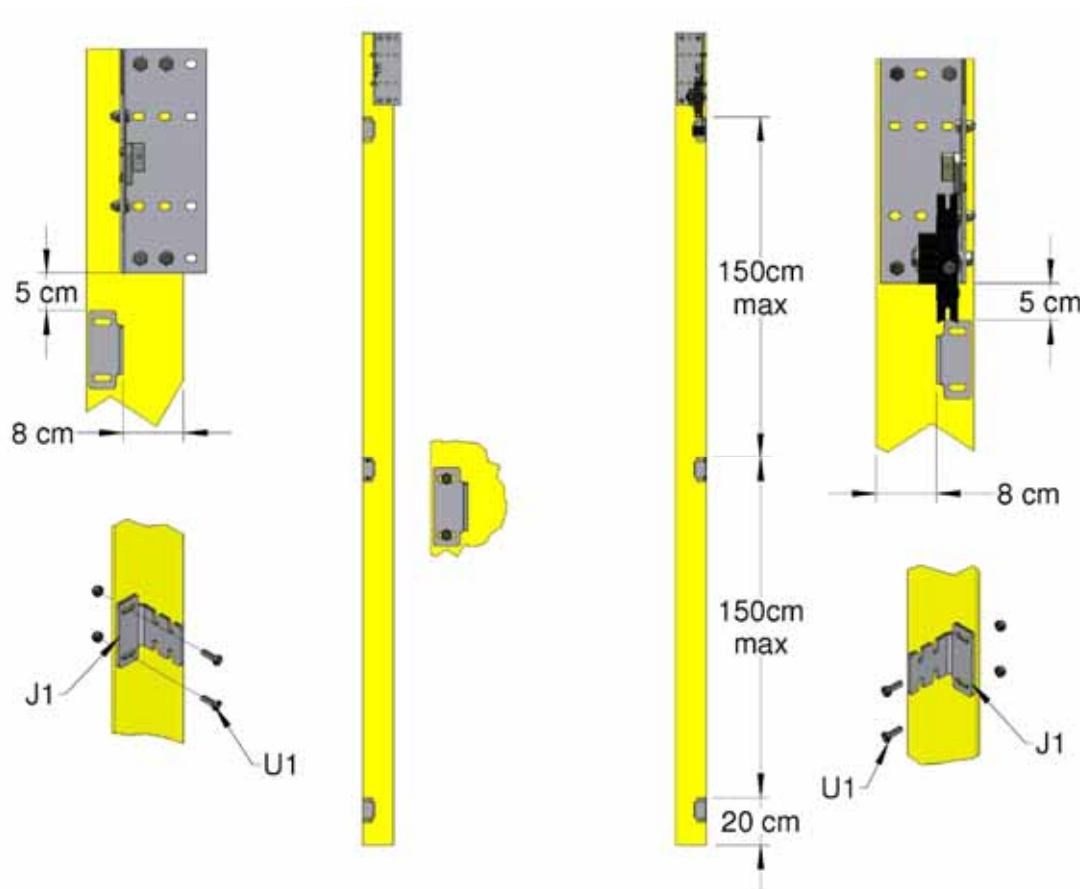

Figure 16, Track Mounting Brackets
- 11 Fit the upper and lower Track Mount Brackets J1 to the building as shown in Figure 16 using the M8x30mm Bolts and Nuts. Position the mounting holes at the centre of the slots in the brackets.